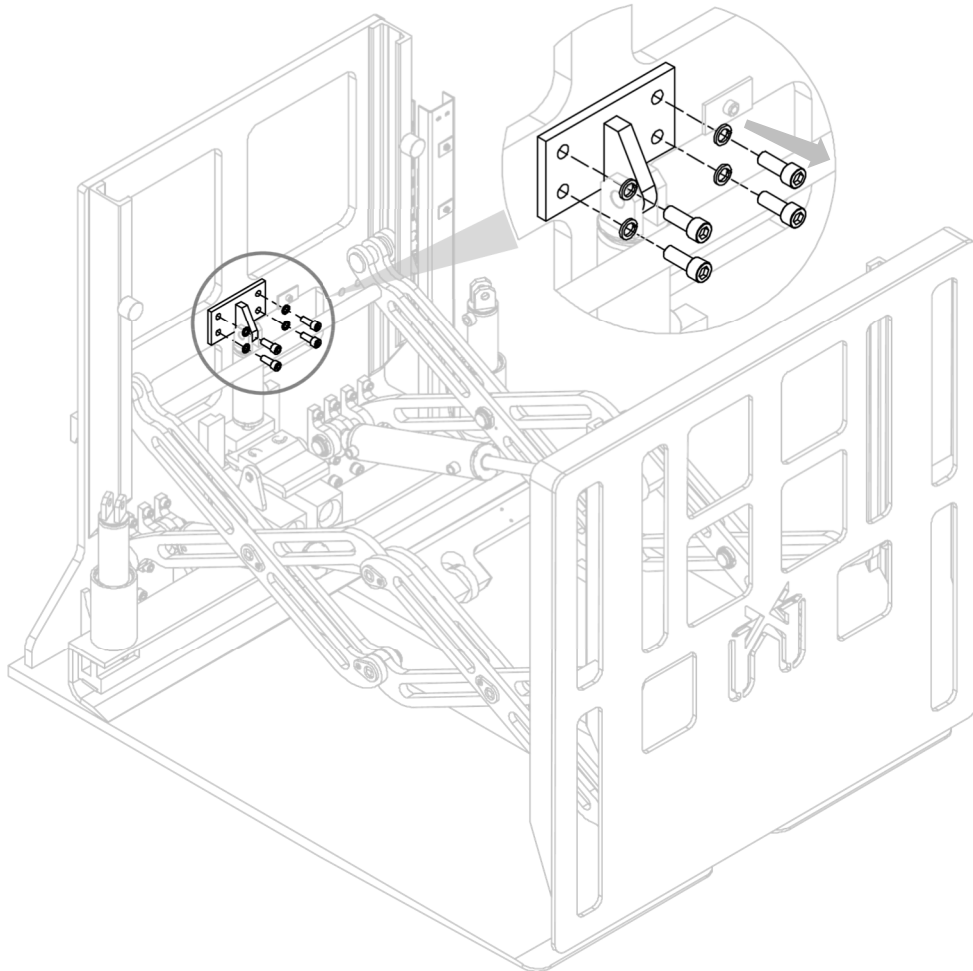

Figure 30
3. Remove the cylinder coupling after removing the relative screws and washers that support it (see Figure 30).43